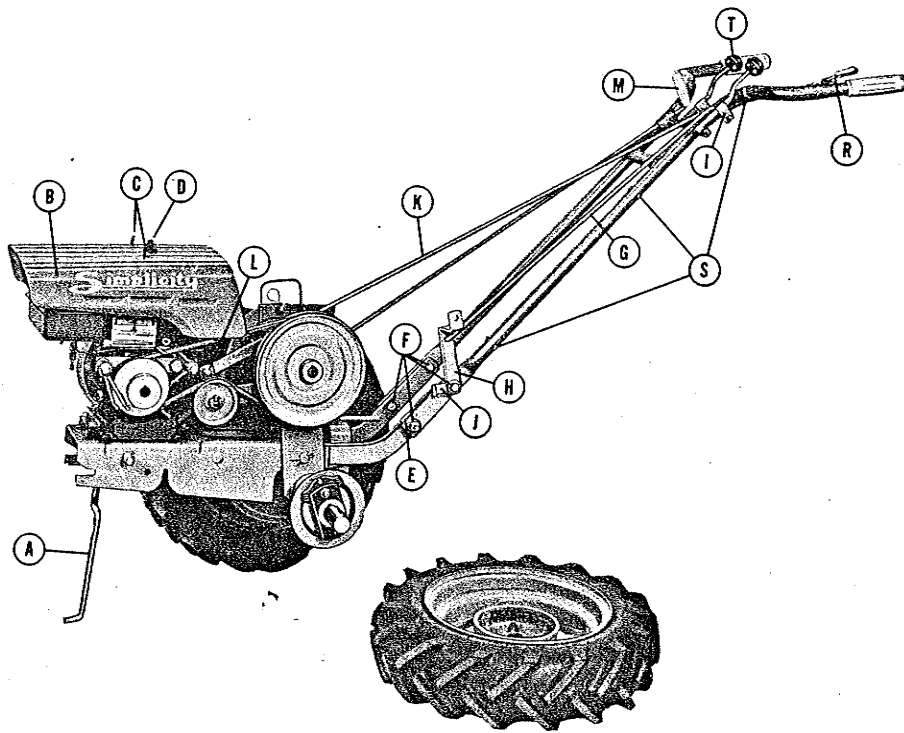
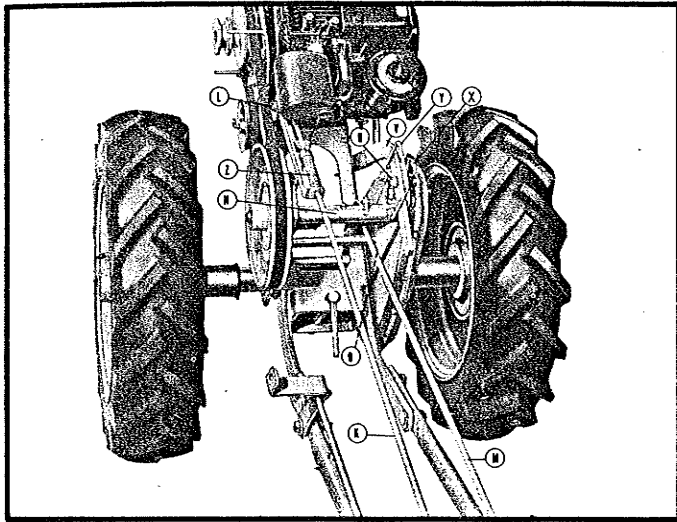
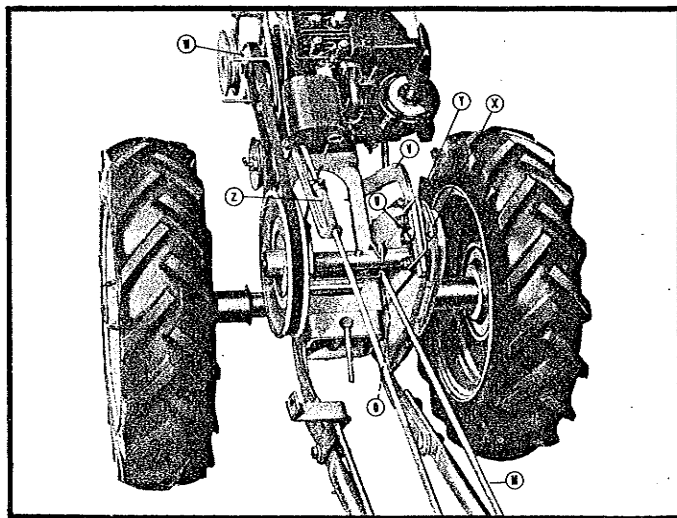

Fig. 1
Fig. 2
Fig. 3
1. Bolt handles to the outside of tractor frame as shown. Handle bolts (F) are shipped inserted in the frame. NOTE: When bolting handles to the frame, be sure that the bushing, washers, clutch lever and lever stop are re-assembled in the same sequence as packed. To provide clearance for attachments, it is recommended that upper left handle bolt be installed head to outside as shown. The other three install with heads to inside.
2. Attach clutch rod (G) to lower clutch lever (H) and upper clutch lever (I) as shown.
3. Lower clutch lever (H) should rest on lever stop (J) when upper clutch lever (I) is forward.
4. Attach clutch rod (K) to idler arm as shown at (L). Figure 2 illustrates this assembly in detail.
5. Attach reverse rod (M) to bearing housing (N) at hole indicated by (O).
6. Please refer to Figure 1. Attach throttle control lever (R) to the left hand handle with the throttle cable strung under the handle.
7. Clamp throttle cable to the handle with three clamps (S) as shown. NOTE: Screws and clamps for cable and throttle lever are packed in mailing bag tied to cable.
The Model LB tractor has two forward speeds. Pulley position for these speeds are illustrated in Figures 2 and 3. Figure 2 illustrates the High Speed, recommended for all attachments except tiller. Notice in Figure 2 that the lock bar pin (U) is located in front hole in the lock bar (V). When changing to low speed, please refer to Figure 3. Loosen engine pulley set screw (W), remove engine pulley, turn around and replace with large pulley to outside as shown in Figure 3. (You will find this simple to do if drive belt is
Remove spring clip (X) and lock bar pin (U) from front hole in lock bar (V). Pull transmission slightly to the rear so that pin (U) will enter rear hole as shown in Figure 3. To facilitate this adjustment, a convenient handle (Y) is provided. Replace spring clip (X) to hold pin. Replace tractor drive belt.